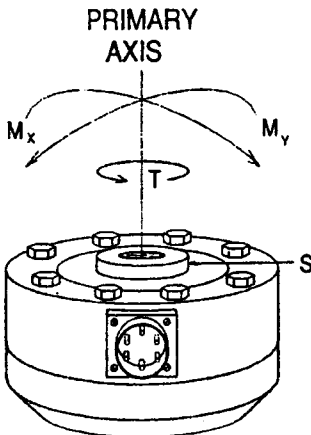

Figure 44. Extraneous Load Vectors
Because of the close tolerance machining of flexures, the matching of gages, and precision assembly methods, all Interface load cells are relatively insensitive to the extraneous loads shown in Figure 44: moments (M_x and M_y), torques (T), and side loads (S). In addition, the resistance to extraneous loads of the Low Profile™ Series is augmented by an additional step in the manufacturing process which adjusts the moment sensitivity to a tighter specification.